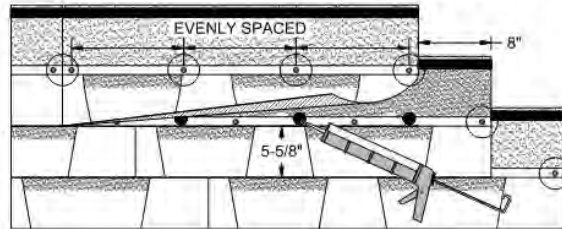

Figure 7 - Hand-Sealing Lamine Shingles
To hand-seal a shingle, apply four (4) quarter-size dabs of asphalt roof cement conforming to ASTM D4586 evenly spaced under each shingle, and press shingles firmly into the cement. Excessive use may cause blistering; correct amounts should not bleed out from under the shingle. (See Figure 7)